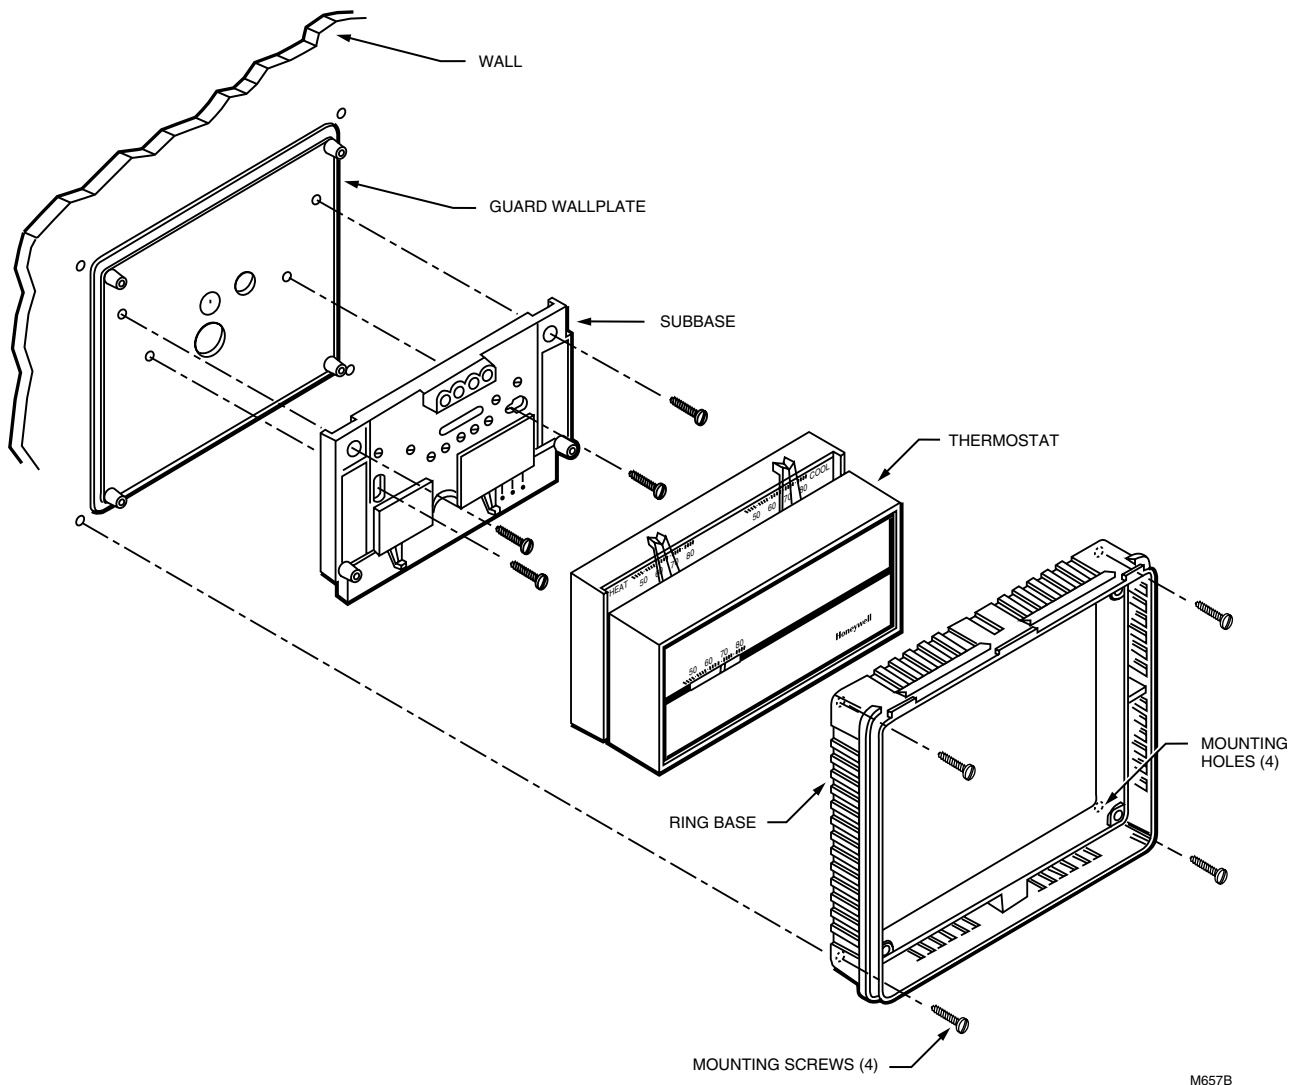

Fig. 10. Mount guard wallplate and ring base on thermostat with front-wired subbase or wallplate.
Wall Mounting Front-wired Subbase (Fig. 10)
- 4 Mount the thermostat subbase (or wallplate) and the guard wallplate to the wall using the 1-1/4 in. sheet metal screws provided with the thermostat. The guard wallplate must be placed between the thermostat subbase (or wallplate) and the wall. See Fig. 10.